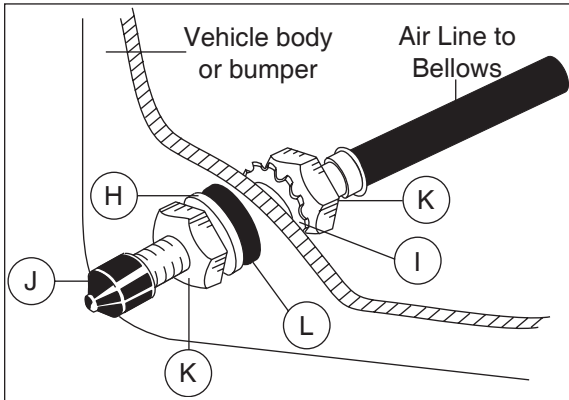

Figure 12
4. Place a $\frac{5}{16}$ " nut (K) and a star washer (I) on the air valve. Leave enough of the inflation valve in front of the nut to extend through the hole and have room for the rubber washer (L), flat washer (H), and $\frac{5}{16}$ " nut (K) and cap (J). There should be enough valve exposed after installation - approximately $\frac{1}{2}$ " - to easily apply a pressure gauge or an air chuck (Figure 12).
5. Push the inflation valve through the hole and use the rubber washer (L), flat washer (H), and another $\frac{5}{16}$ " nut (K) to secure it in place. Tighten the nuts to secure the assembly in place (Figure 12).